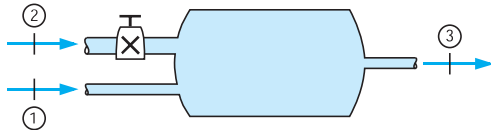

FIGURE P6.97
- 6.98** An insulated mixing chamber receives 2 kg/s of R-134a at 1 MPa, 100°C in a line with low velocity. Another line with R-134a as saturated liquid at 60°C flows through a valve to the mixing chamber at 1 MPa after the valve, as shown in Fig. P6.97. The exit flow is saturated vapor at 1 MPa flowing at 20 m/s. Find the flow rate for the second line.